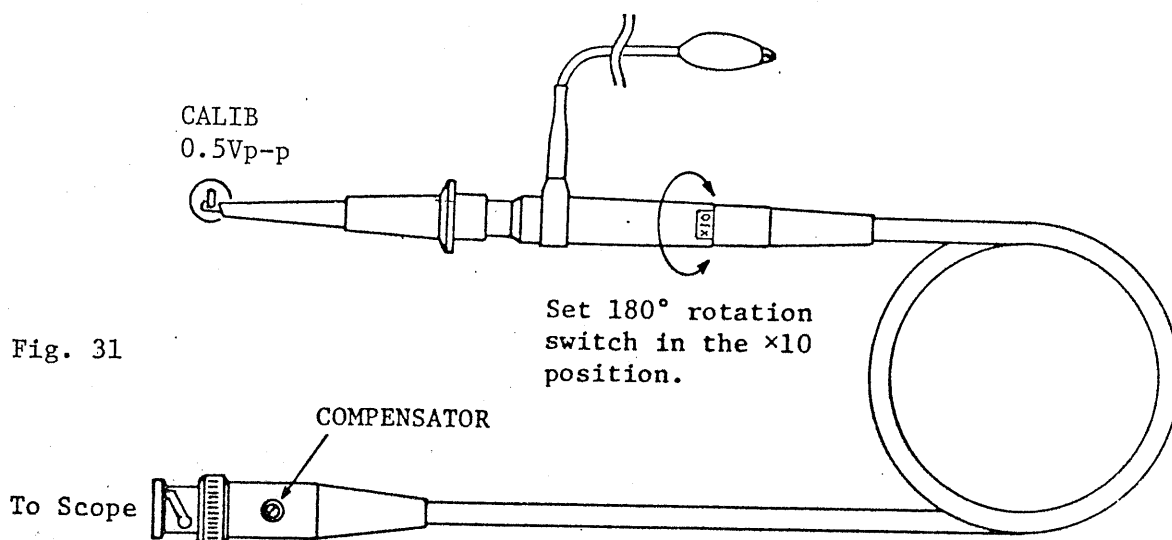

Fig. 31
As explained in Section 5.1, the probe makes up a kind of wide-range attenuator. Unless phase compensation is properly done, the displayed waveform is distorted causing measurement errors. Therefore, the probe must be properly calibrated before use. For probe calibration, use the signal of the calibration voltage output (CALIB, 0.5 Vp-p) terminal (6) of the front panel. (Fig. 31)